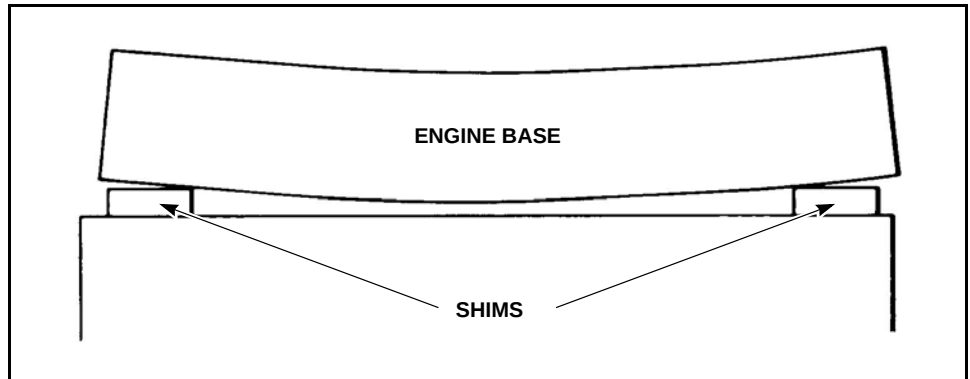

Figure 2-11 Natural Crankcase Sag
6. The mounting points in the center of the engine now need to be shimmed. These are the final two points in the six point mounting. These center support points will have some amount of natural crankcase sag. While the engine is supported on the ends, the middle of the case is unsupported, and it may sag (see Figure 2-11). This sag has to be compensated for with the shimming procedure.